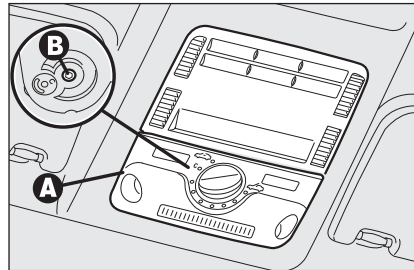

fig. 89
- press the light notches to release the clips and remove the front ceiling light **A-fig. 89**.